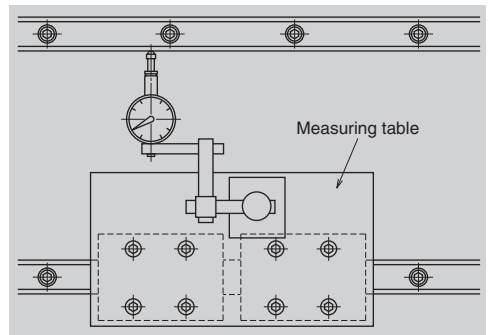

Fig. 9.15 Measuring parallelism
- ③ If the mounting face of the machine base where the adjusting side rail is installed also has a shoulder, repeat the steps ① - ②.
- ④ If there is no shoulder on the mounting face of the machine base for the adjusting side rail: Secure a measuring table to the slides of the reference side rail (Fig. 9.15). Use this to adjust the parallelism of the adjusting side rail. Check parallelism of the adjusting side rail with a dial gauge from one end of the rail, tightening the bolts one by one.
Parallelism between two rails can also be checked by the same method in Fig. 9.15 when there is a shoulder on the face where the adjusting side rail is installed.